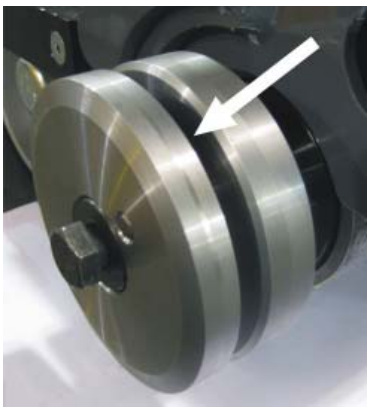

Figure 9. Inspect and Clean Flange
3. Verify the blade flanges are clean and not damaged. Pay particular attention to all holes and recesses. Clean or “rod-out” as necessary (Figure 9).